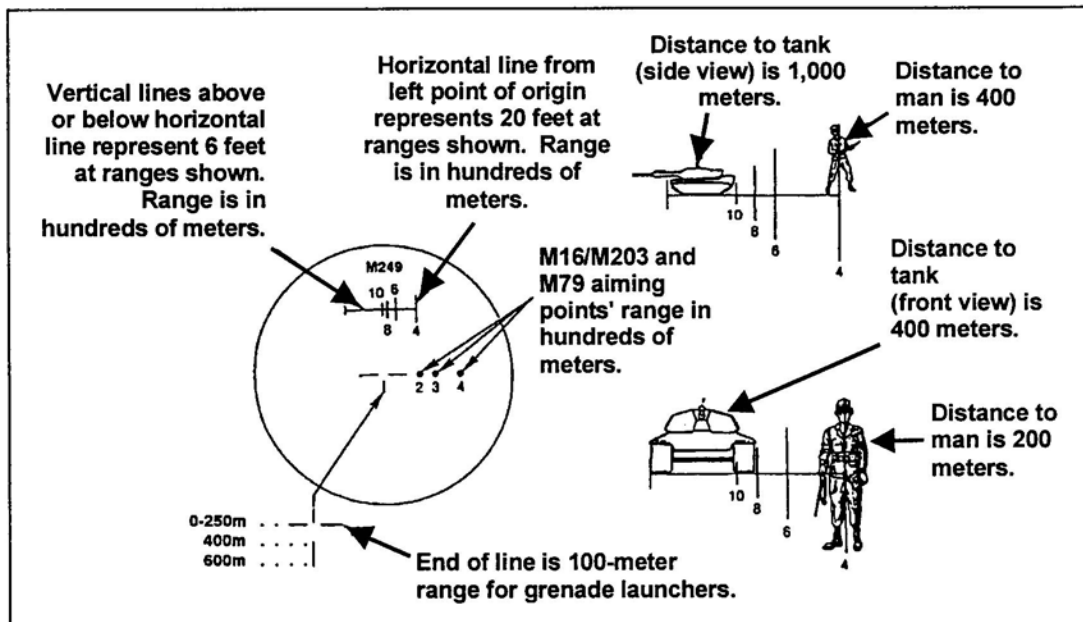

Figure 1. Place the Sight in Operation
- d. Place the sight in operation. Mount the sight to the weapon. Adjust the azimuth and elevation controls so that the reticle aiming point appears to be centered in the sight's field of view (Figure 1).